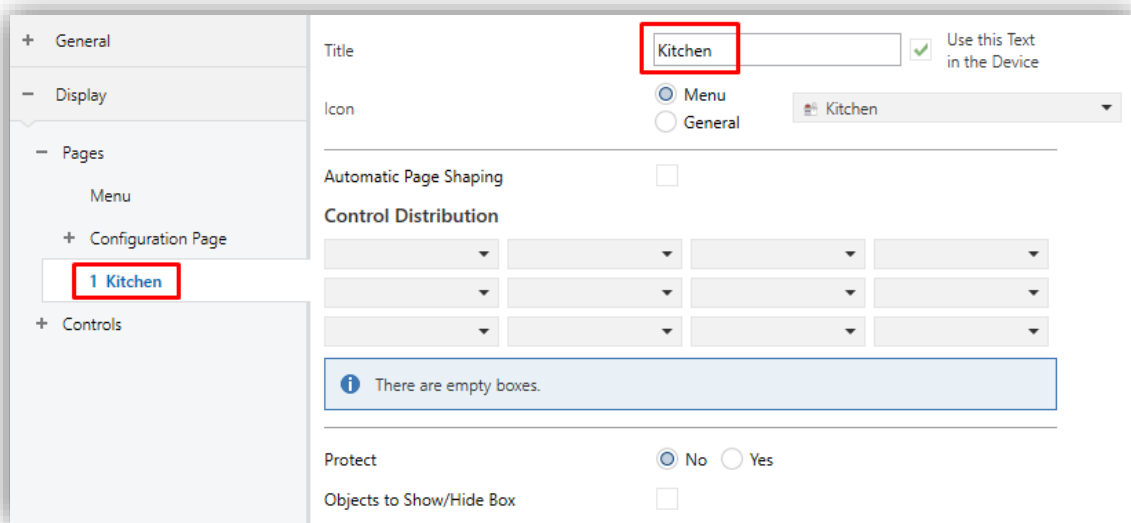

Figure 70. Configuration Page n
- **Title:** text field that identifies each of the enabled pages. In addition, this field allows changing the name of the tab in ETS left menu, as shown in the Figure 70.